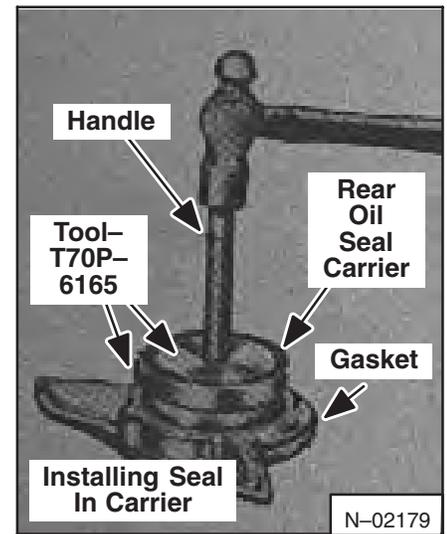

Fig. 7B-54 Installing Oil Seal For Crankshaft
1. Install a new crankshaft rear oil seal (Fig. 7B-54).
3. Put new gaskets on the block flange using sealing compound at each end. Install the end seals with the chamfered end into the grooves, again using a sealing compound and install the oil pan. Tighten the bolts to the correct torque using the steps in (Fig. 7B-55).